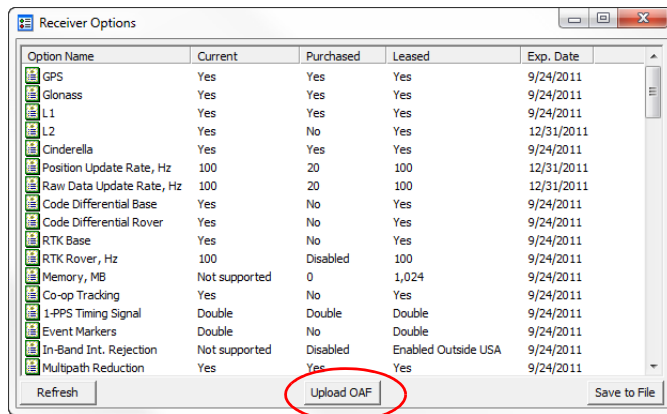

Figure 17: Receiver Options
3. Click the **Options**  icon in the main window. The **Receiver Options** window (Figure 17) displays, so you can view the current authorization options and upload new ones.
2. Click **Upload OAF** on the bottom of the **Receiver Options** window (see Figure 17).